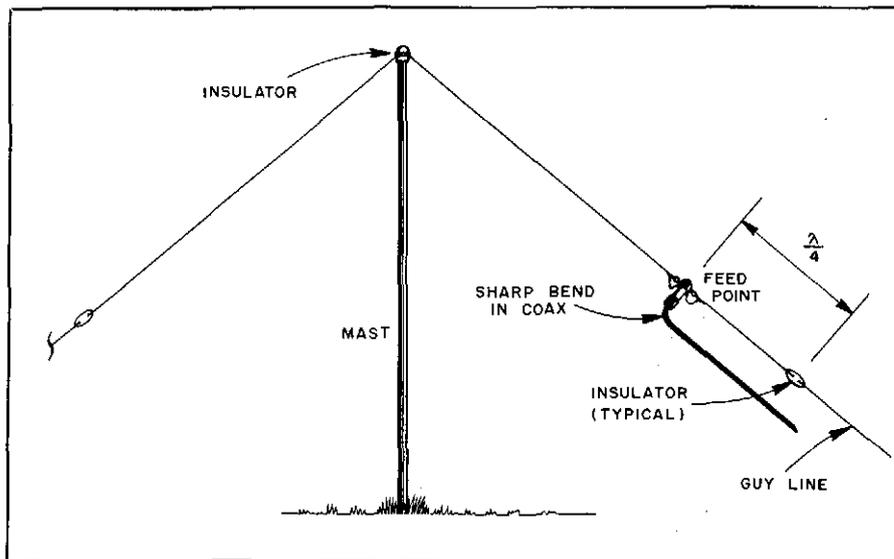

Fig 14—WB3DDM's long-wire antenna with a low-impedance feed at one end.
□ For some time now, I've been using long-wire antennas in the inverted-vee configuration. I feed the antennas  $\lambda/4$  from one of the leg ends so that I can use coax transmission lines. (Each leg is an odd multiple of  $\lambda/4$  in length.) Thus, the feed point is not at the apex, but along one of the sloping legs. This arrangement frequently creates a sharp bend at the coaxial connector (see Fig 14).